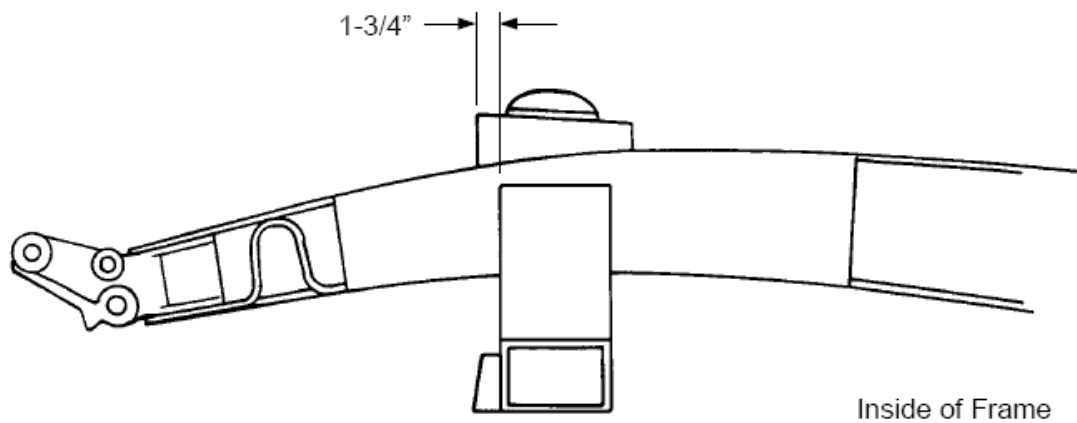

Figure 4- Spring Tower Install
7. Next are the spring towers. They sit on top of the frame rails, and are located 1-3/4" forward of the front of the crossmember, as shown in **Figure 4**. The higher side of the spring towers goes toward the front. Seat them fully against the frame, grind to fit the tops of the frame rails, clamp in place, then tack weld.